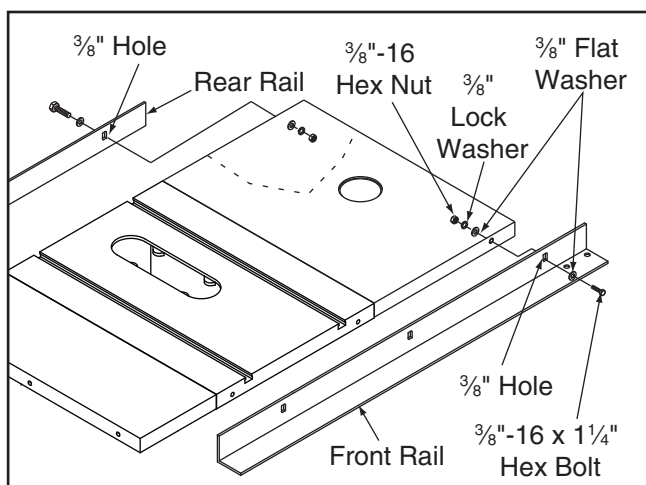

Figure 8. Example of mounting router table to rails.
- Use (2) $\frac{3}{8}$ "-16 x $1\frac{1}{4}$ " hex bolts, (2) $\frac{3}{8}$ " lock washers, (4) $\frac{3}{8}$ " flat washers, and (2) $\frac{3}{8}$ "-16 hex nuts to secure the router table to the front/rear fence rails, as shown in **Figure 8**.
Note: If your rails do not have mounting holes to accommodate the router table, you may need to drill holes in your fence rails to allow the router table to be fastened, as shown in **Figure 8**.